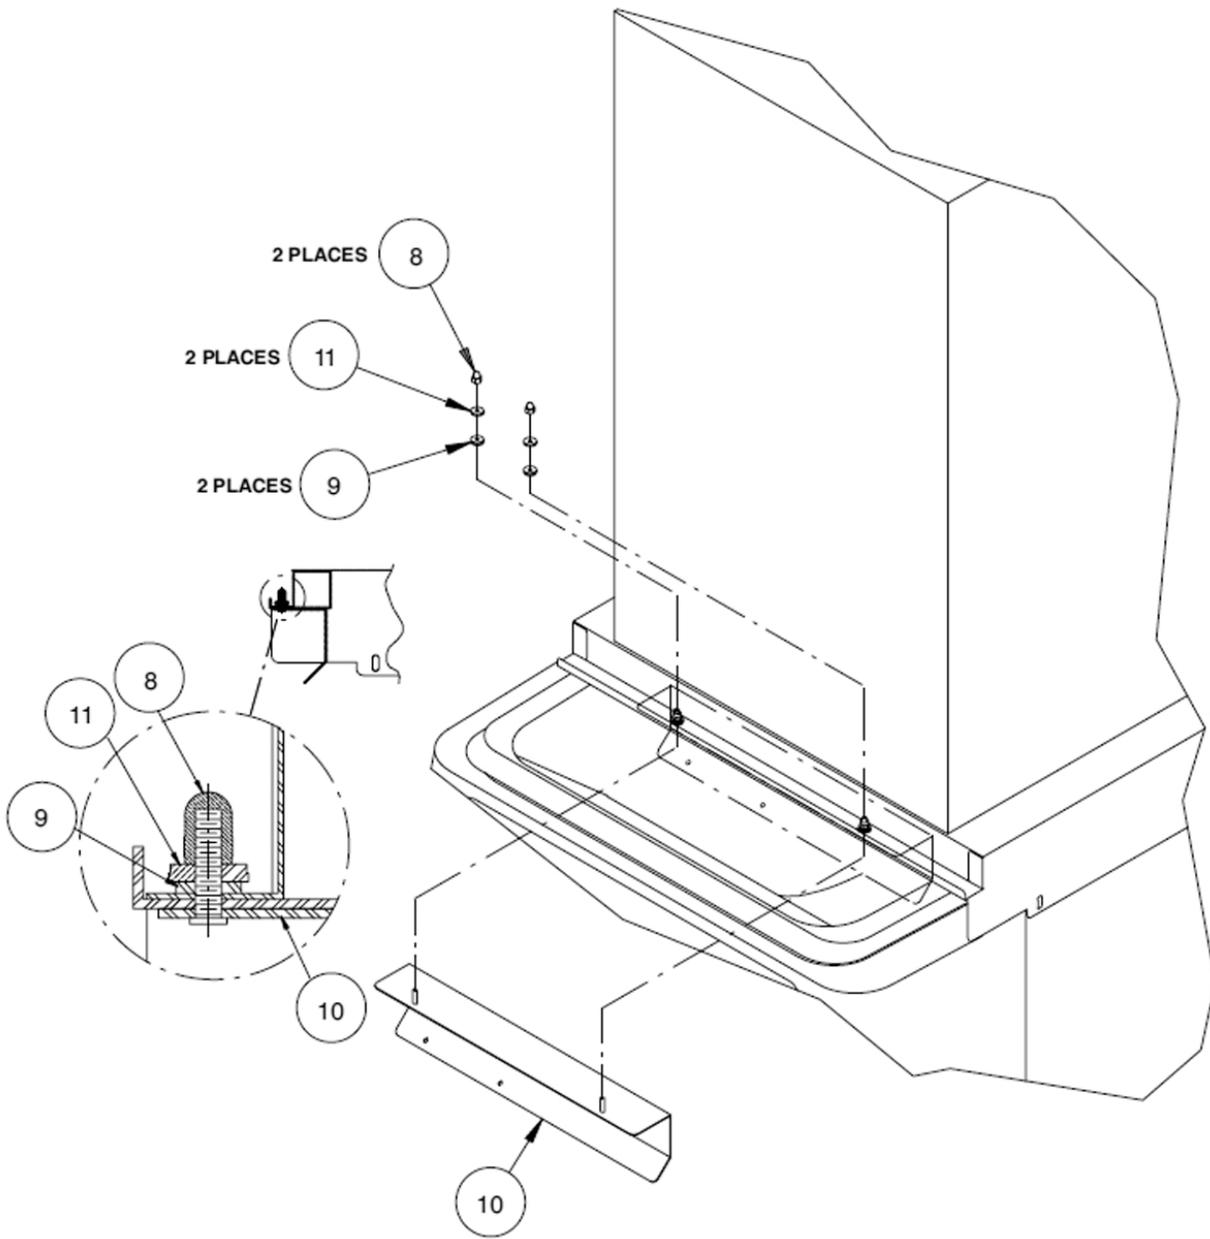

Figure 2. ED/DF175 Kit
The dispenser must be secured with 3/8-16 bolts (6) to the counter before installing this Icemaker Adapter Kit. Refer to the installation manual and Figure 2 for the counter mounting template.
3. Place (2) sealing washers (item 9) over studs and (2) flat washers (item 11), then fasten in place with (2) plastic acorn nuts (item 8).
5. Using the slotted holes in the lid as a template, drill four (4) 0.140" diameter (9/64") holes at the bottom of the slots (see detail A). Use extreme care not to drill into the hopper. Fasten the lid to the dispenser with four (4) #8 sheet metal screws, two on each side.